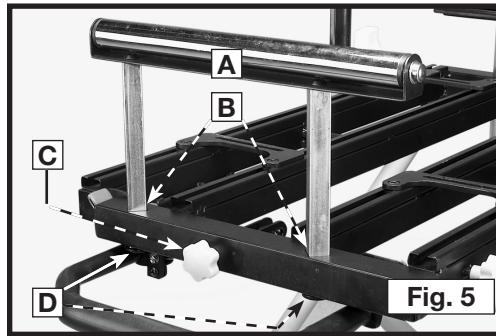

Fig. 5
2. Install an extension roller (A) Fig. 5 in the holes (B).
3. Install one of the longer lock-knobs with a flat washer (C) Fig. 5. This lock-knob will lock the vertical movement of the extension roller.
4. Insert an extension roller end cap (D) in the bottom of both legs of the extension roller (A) and tap it in with a rubber mallet. Ensure that the tabs on the end caps are aligned with the holes in the legs.